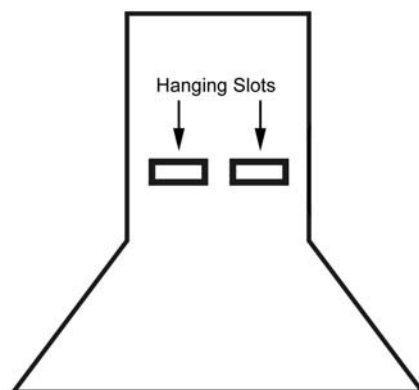

Figure 2a
8. Mount the unit onto the mounting bracket by hooking the hanging slots at the rear of the unit onto the hooks of the mounting bracket. (See Figure 2a & 2b)